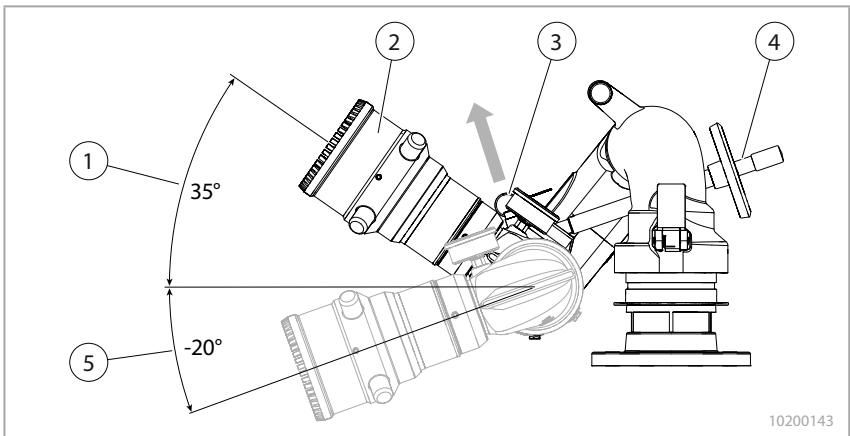

Fig. 7 Safety stop for elevation angle
1. Pull up the locking bar at the key ring (Fig. 7/3) and rotate the nozzle/tube (Fig. 7/2) downwards with the handwheel (Fig. 7/4) until the projection axis is within a range of less than 35° (Fig. 7/1).
The maximum angle below the horizontal (Fig. 7/5) is 20° .